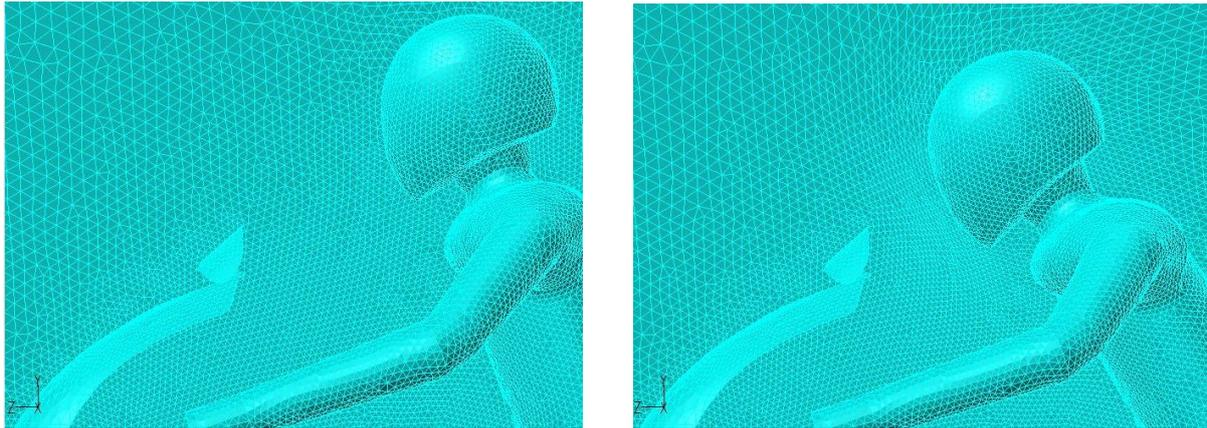

Figure 2: The mesh is morphed to change the driver angle of 15 degrees with respect to vertical axis.
- changing of driver position acting on the hunching angle (Figure 2);